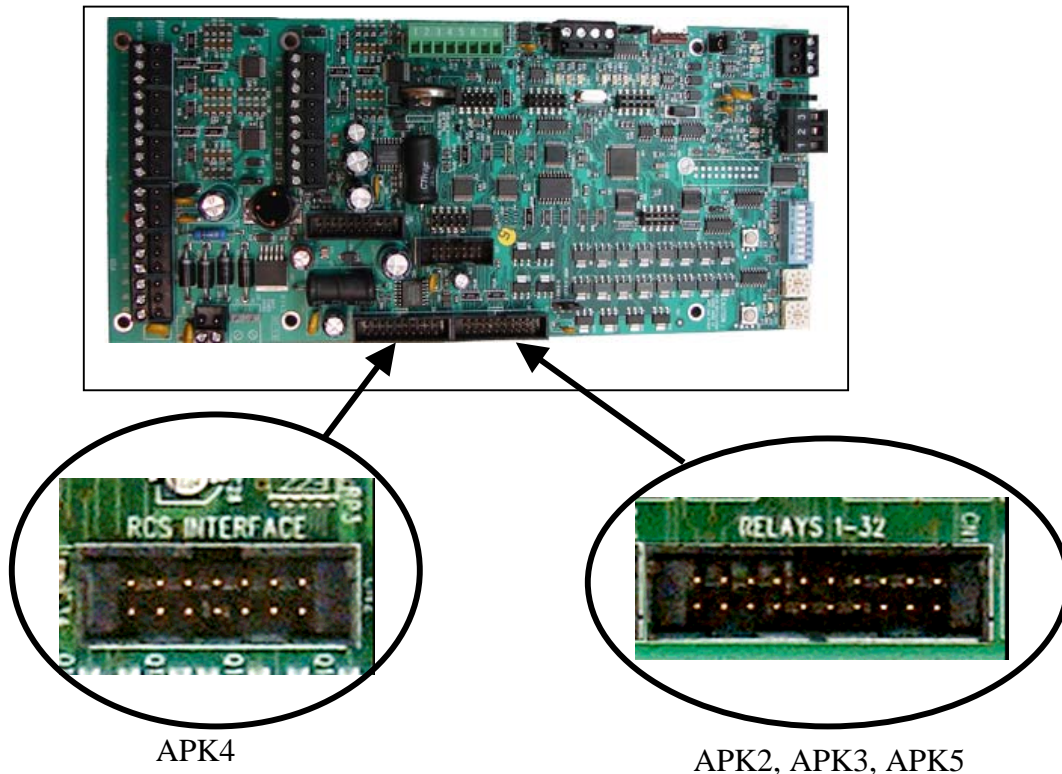
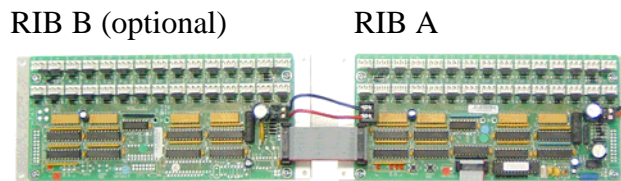
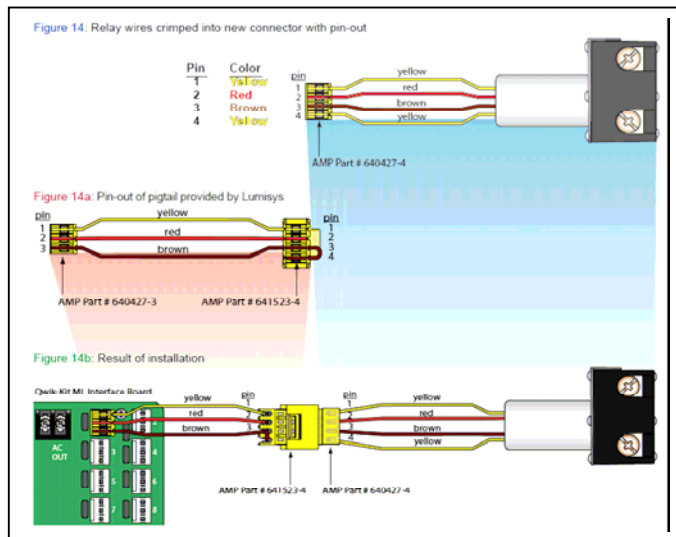

FIGURE 3
Figure 11A
Figure 11B
4. Refer to Figures 3. Insert ribbon cable connectors into appropriate sockets. APK2, APK3, and APK5 series kits come with one 34" daisy chain ribbon cable. This ribbon cable possesses three female connectors: one for the AUTOPHOS Controller and one for each interface board. To connect ribbon cables for APK2, APK3, and APK5 kits, connect the end connector of the 16" section of cable into the AUTOPHOS Controller socket labeled "RELAYS 1-32". Next plug the middle connector into RIB-A into the socket labeled "1-16". Connect the last connector into the Board B socket labeled "17-32".
The APK4 comes with 2 separate ribbon cables (see Table 2 and associated note). Connect one end of the 14-pin, 6 inch cable into the socket on the AUTOPHOS Controller labeled "RCS INTERFACE" (Figure 3). If your application requires expansion cable Cat #235018, insert the male end of the expansion cable connector into the other end of the 6 inch cable. Connect the female end of the expansion cable into the socket labeled "CPU" on RIB-A (see APK4 Wiring). If you are not using the expansion cable, connect the other end of the 6 inch ribbon cable into the socket labeled "CPU" on RIB-A (see Figure 1c). Connect one end of the 20-pin cable into the socket labeled "AUX OUT" on RIB-A, and connect the other end into the corresponding 20-pin socket on RIB-B. Refer to Figure 11A. Also refer to **APK4 Power connections** that follow.
The APK4 does not supply power through the ribbon cables; it requires separate power wire connections to each RIB. Instructions for connecting power wires for the APK4 follow. See Figure 3 for power connections. Power wires should be 18AWG stranded. The APK4 uses a two-wire power supply. Power is routed from the transformer to the AUTOPHOS CONTROLLER, and then it is daisy chained from the AUTOPHOS Controller to RIB-A and then to the optional RIB-B (APK4X). The 'power out' connections on the AUTOPHOS Controller and RIB-A use a non-removable terminal block and 'power in' connections use a removable 2-pin terminal
1. Beginning with relay #1, splice each wire of the relay to that of the pigtail. Refer to Figure 11B.
2. Insert the connector onto its terminal on the interface board. Be sure the connector of the pigtail is inserted in the proper orientation. Figure 11B gives the pin layout of the RIB boards. This pin layout holds for all inputs.
The APK4 distinguishes Board A and B differently (B ordered separately) from the APK2, APK3, and APK5 series kits. Refer to Figures 11A and 11B. Board A possesses two ribbon cable sockets: a 14-pin socket labeled “CPU” for communications with the AUTOPHOS Controller, and a 20-pin socket, labeled “AUX OUT”, to communicate with Board B. Board B possesses only one ribbon cable socket for input from Board A. Figure 11B illustrates each board.